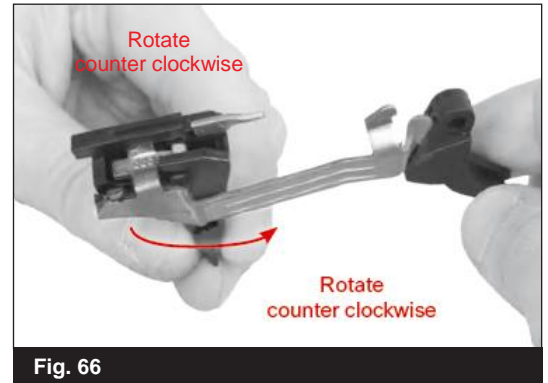
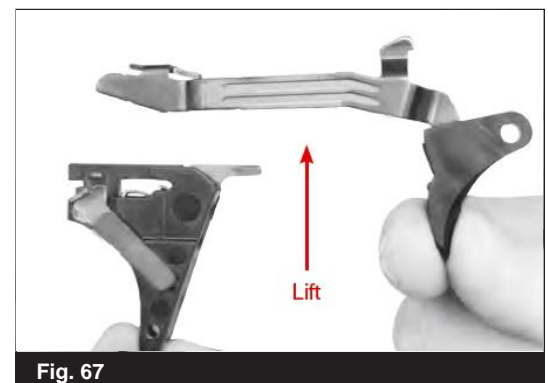

Fig. 66
Fig. 67
- Holding the trigger mechanism housing and trigger bar as shown (Fig. 66), carefully work the front arm of the cruciform out from under the front metal 'hook' on top of the trigger spring assembly by twisting it slightly counter clockwise. This will allow the left arm of the cruciform to move out from the slot in the housing and off the drop safety shelf where you can lift it upwards from the assembly. (Fig. 67)